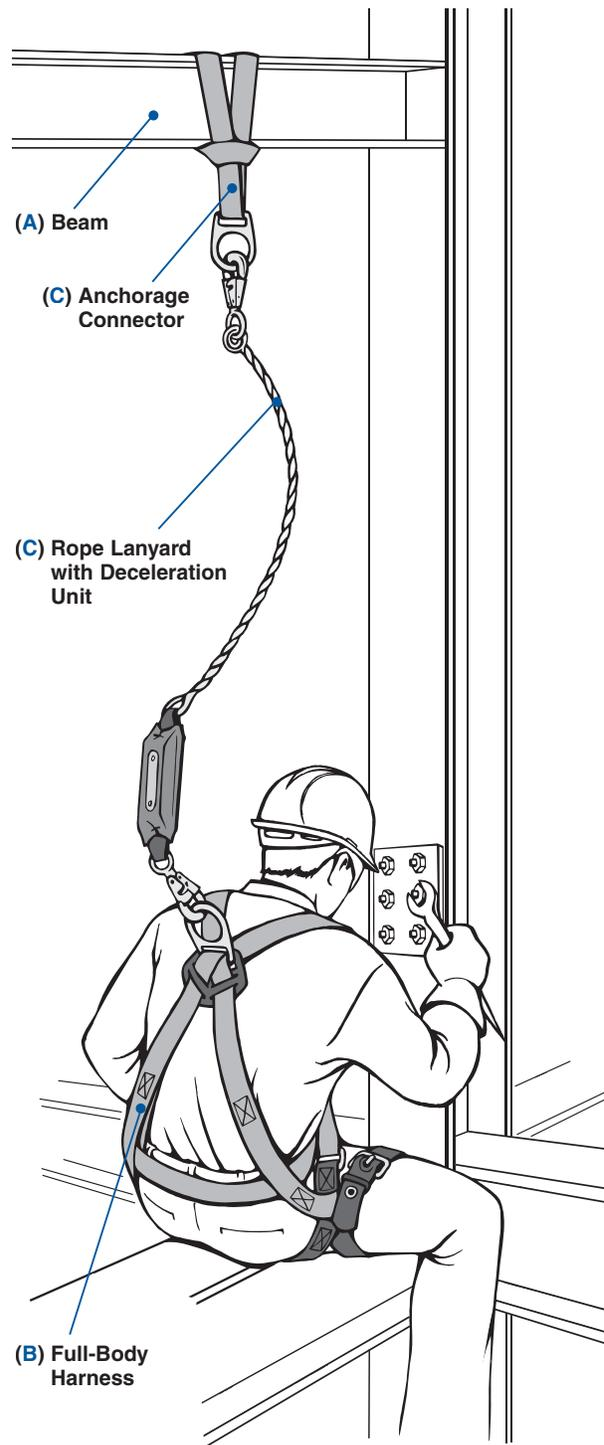
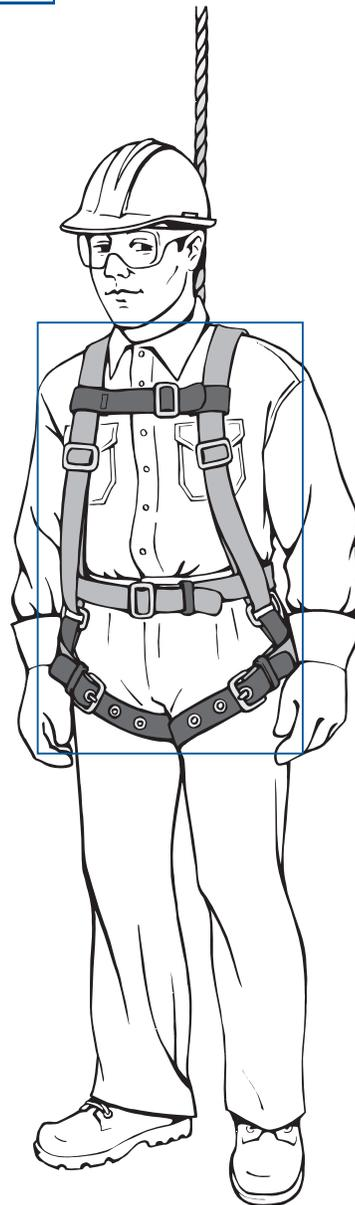

Figure 4
Figure 5
A **personal fall-arrest system** is required if there is any risk of a worker falling from an elevated position (generally, six feet or more). **NOTE: Know the specific OSHA regulations which pertain to your industry.** OSHA defines a personal fall-arrest system as “a system used to arrest an employee in a fall from a working level.” It consists of (A) a fall-arrest anchorage capable of supporting a minimum of 5,000 lbs. (22.2 kN) per attached worker and independent of the worker’s support; (B) a full-body harness designed to distribute the fall-arrest forces over thighs, pelvis, waist, chest and shoulders and equipped with a circle D-ring at the back for attaching a fall-arrest connecting device; and (C) a fall-arrest connecting device, such as a lanyard, deceleration device, lifeline, or a combination of these devices equipped with locking snap-hooks. A personal fall-arrest system is a passive protection system which only comes into service when a fall occurs, similar to a seat belt in a car which restrains the wearer only upon impact. For example, in Figure 4, a fall-arrest system would be used by an ironworker bolting steel beams together for a skyscraper. Following the **A-B-C RULE**, the OPE system includes: (A) beam, (B) full-body harness, and (C) choker anchorage connector and lanyard with a deceleration unit. The outlined area in Figure 5 shows the impact-force distribution for a typical full-body, fall-arrest harness. OSHA requires that impact force in a fall NOT exceed an 1,800 lb. (8 kN) limit with a harness. At a given weight, the longer the free fall, the greater the resulting impact force. To stay under the 1,800 lb. (8 kN) limit, minimize slack in the fall-arrest connecting device. The use of a deceleration unit will also reduce impact forces.